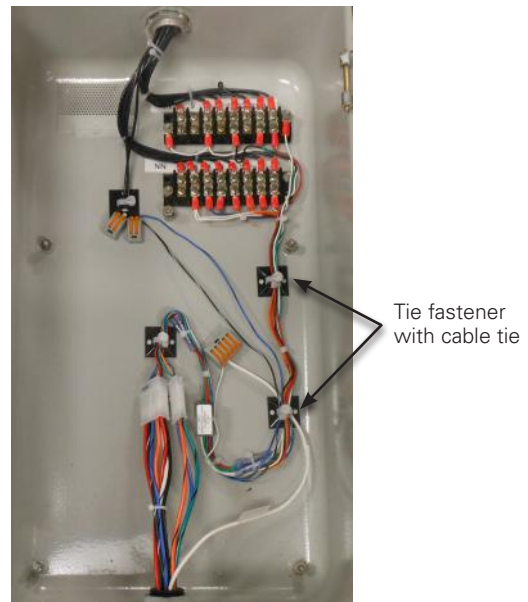

Figure 39. Secured QCA harness assembly.
16. Secure the QCA wires inside the GE control box by placing tie fasteners (Item 7) as needed and then fastening with cable ties (item 6) as shown in Figure 39.